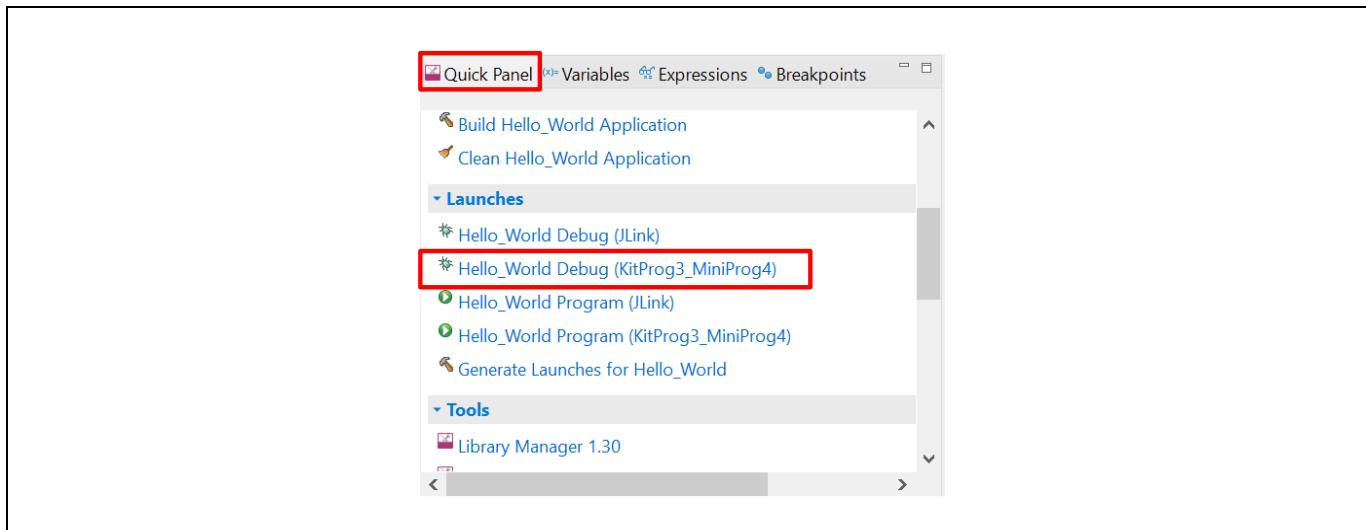

Figure 15 Debugging in ModusToolbox™ software
- ModusToolbox™ software has an integrated debugger. To debug a PSoC™ 6 MCU application, in the Project Explorer, select <App_Name> project. In the Quick Panel, scroll to the **Launches** section and click the <App_Name> Debug (KitProg3_MiniProg4) configuration as shown in Figure 15. For more details, see the “Program and debug” section in the Eclipse IDE for ModusToolbox™ user guide.